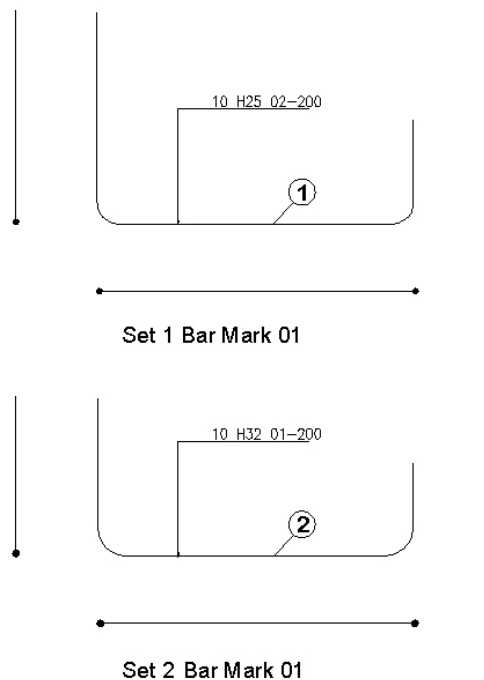

Figure 7.2.4:4 Editing the properties of Shape Code 132
- ▶ Select RebarCAD → Editing → Edit Bars or  or double click the bar as marked by point 2 in figure 7.2.4:4 above